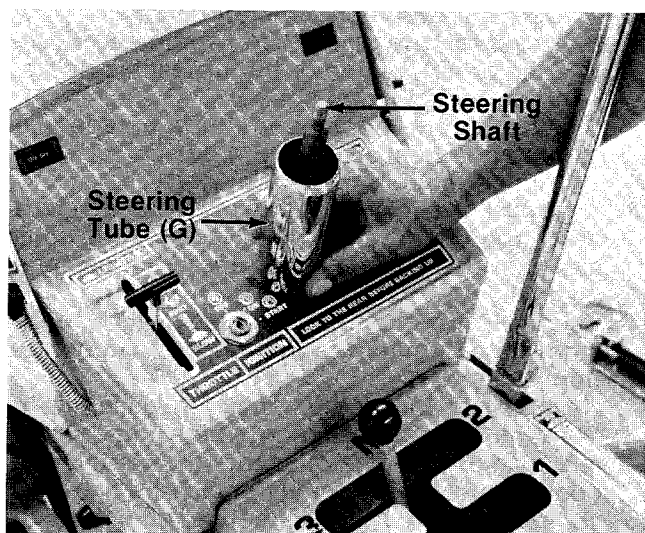

FIGURE 2.
- ← 1. Place the steering tube (G) over the steering shaft. See figure 2.